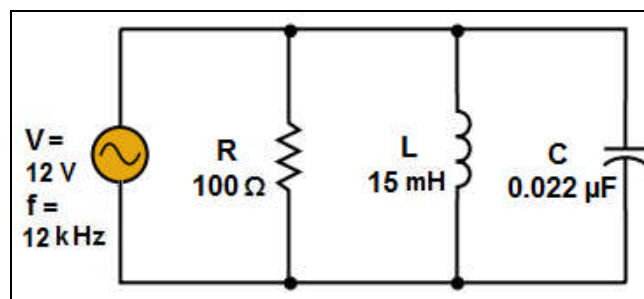

Fig. 2.3-19 Parallel RLC Circuit
2. For the circuit shown Fig. 2.3-19: